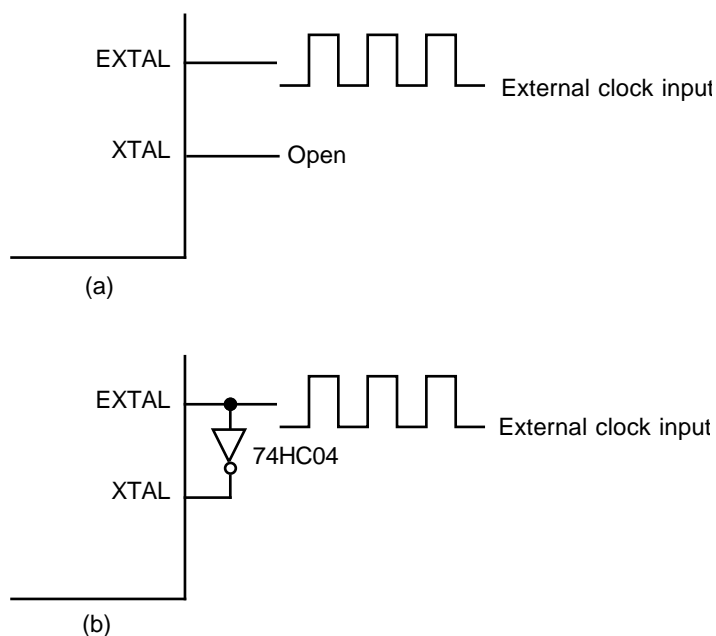

Figure 15-5. External Clock Input (Example)
(2) Input of External Clock Signal
① **Circuit Configuration:** An external clock signal can be input as shown in the examples in figure 15-5. In example (b) in figure 15-5, the external clock signal should be kept high during standby.